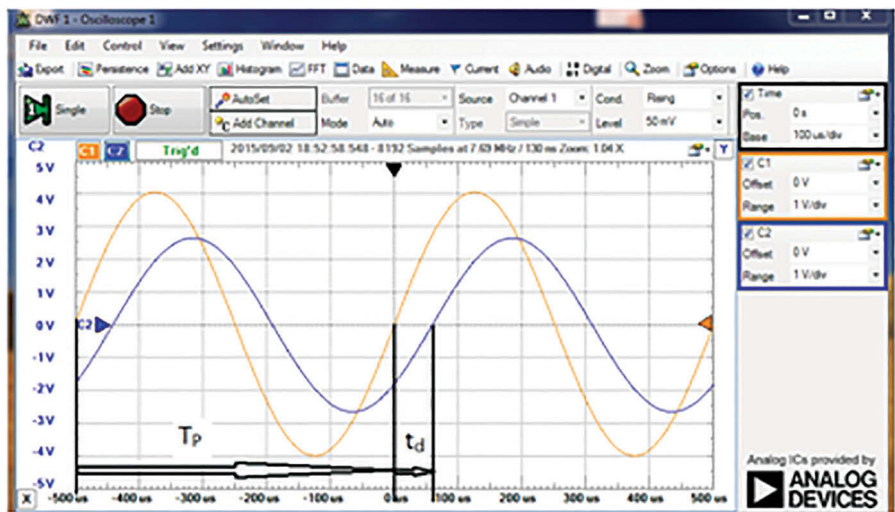

FIGURE 4.2
1. Display the two signals on scope channels 1 and 2 as a function of time (see Figure 4.2).